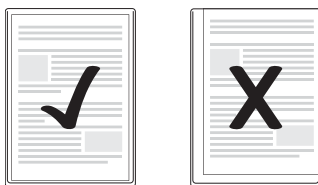

Fig. 1
- ▶ Ensure that all edges of the document have at least two millimetres of space to the edges of the laminating pouch, as shown in Fig. 1.
- ▶ Ensure that all edges of the document have at least two millimetres of space to the edges of the laminating pouch, as shown in Fig. 1 (see p. 64).